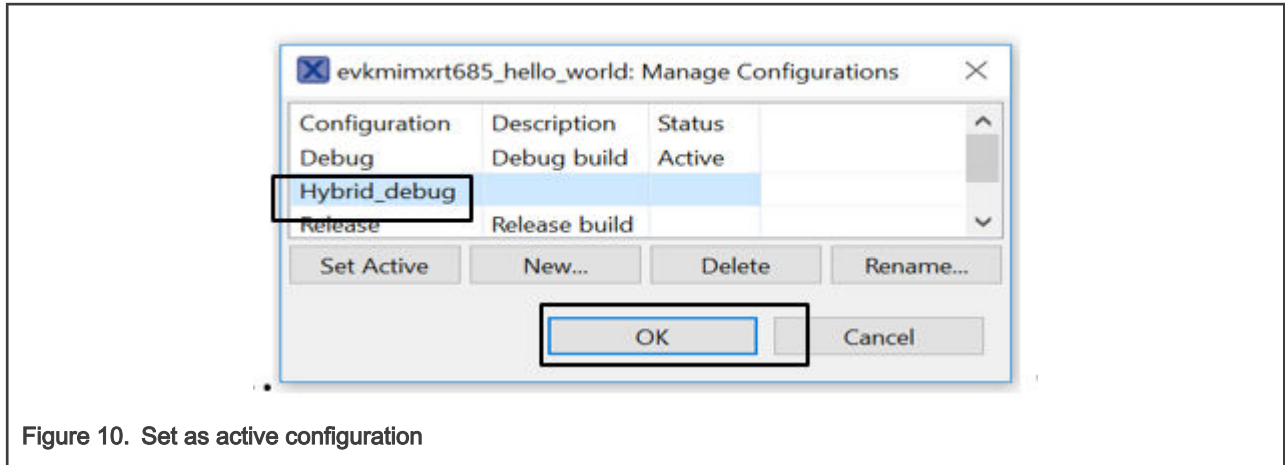

Figure 10. Set as active configuration
3. Set the new “Hybrid_debug” as the active configuration, as shown in Figure 10.